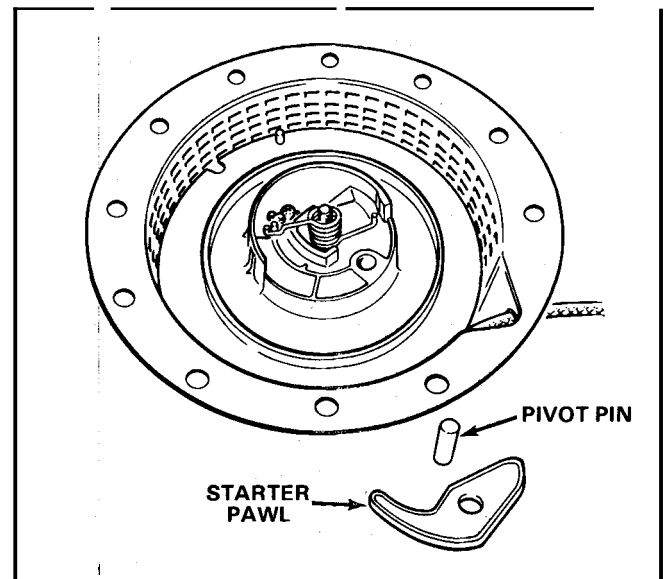

Figure 44
5. Remove the starter pawl and pivot pin. See Figure 44.